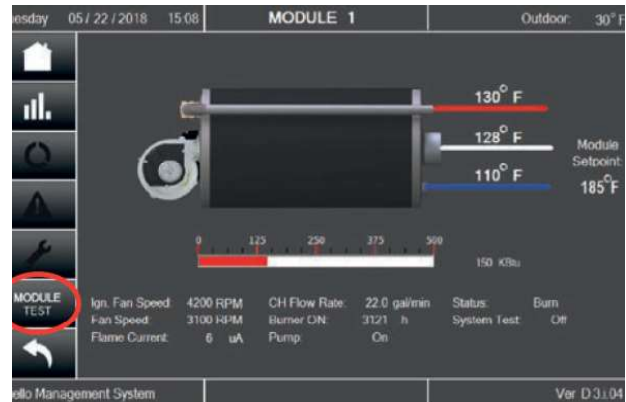

Fig.4 Module Screen - “MODULE TEST”
2. Insert a combustion analyzer into the exhaust test port of module 1 and select “MODULE TEST”(See Fig 4).